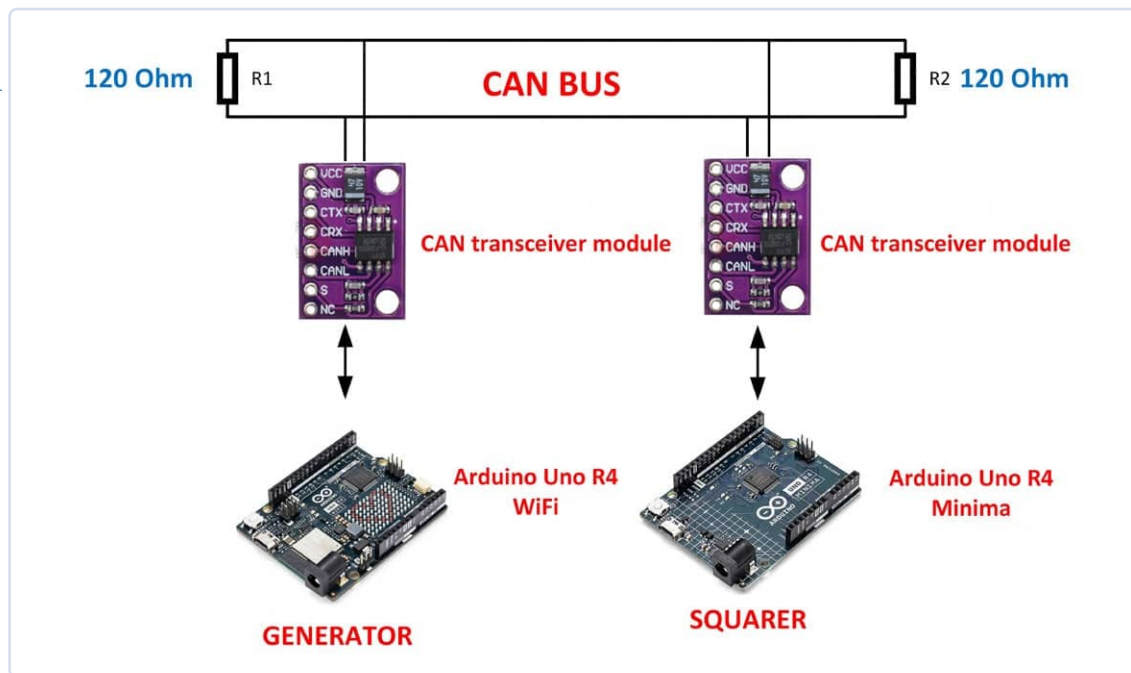

Figure 2: Demo project block diagram.
**Figure 2** shows the block diagram of the project. Here, the GENERATOR node is an Arduino UNO R4 WiFi, and the SQUARER node is an Arduino UNO R4 Minima. Two CAN bus transceiver modules and the CAN bus wiring are also shown.